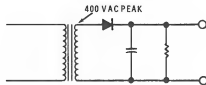

Figure 4-97
7. What is the minimum PIV rating for the diode in Figure 4-97?